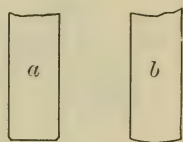

FIG. 23. Irons of Smooth and Jack Planes
10. The Jack Plane. The ordinary plane iron has a straight edge, as shown at *a*, Fig. 23, but when a large quantity of wood is to be removed the iron is sharpened in the shape shown at *b*. This curved iron will cut out the wood in hollows, leaving ridges between, and it